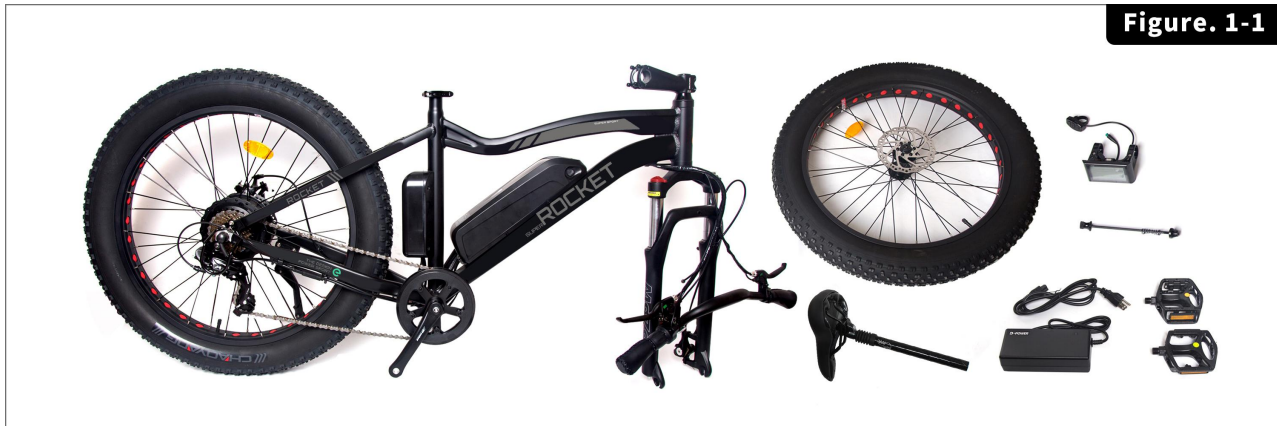

Figure. 1-1
(1) Carefully take your bike out of the carton and gently rest it in place with the kickstand down (Figure.1-1).